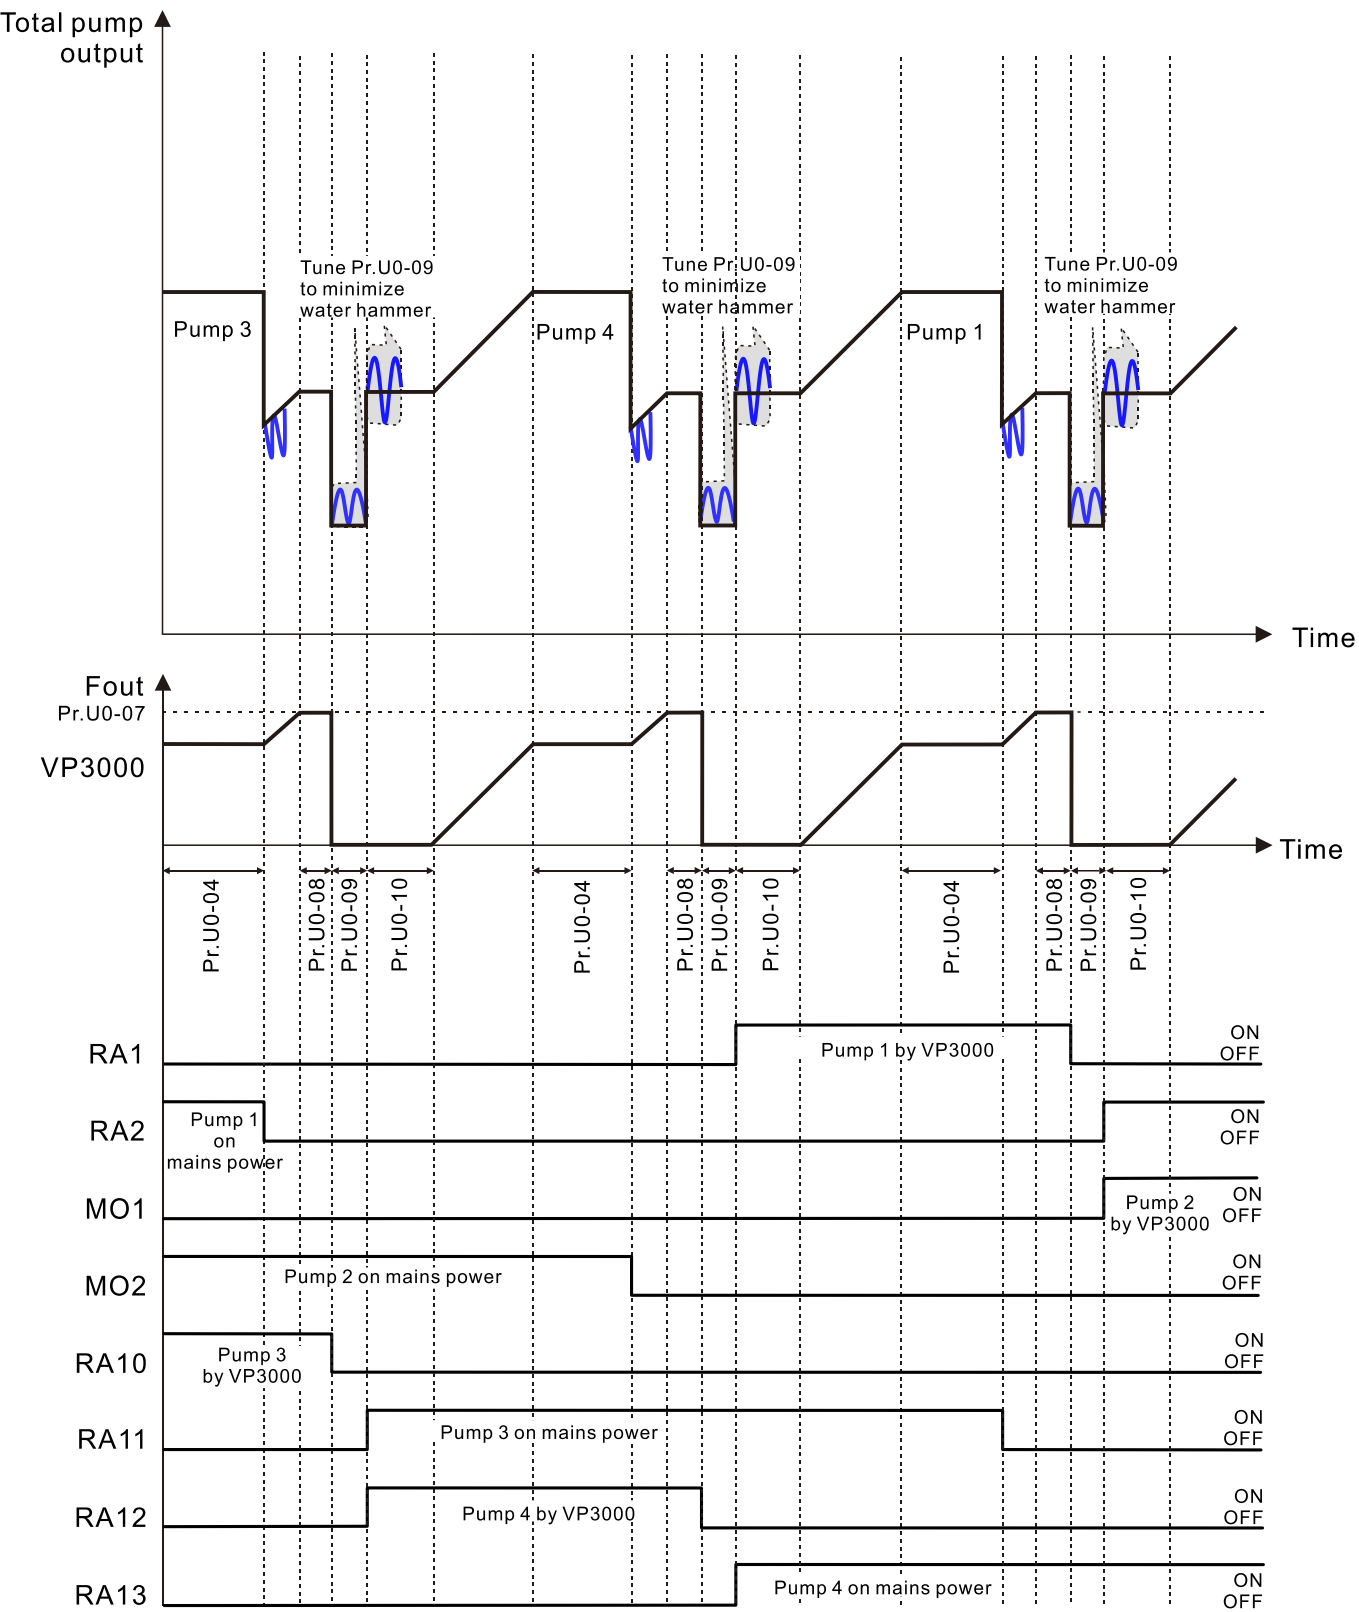

Figure 16 Situation 3 Sequence
- 📖 When the system water demand needs three pumps to balance the pressure, and the AC motor drive runs one set of master pumps and the mains power supplies to two auxiliary pumps, turn off the first auxiliary pump (Pump 1) first according to Pr.U0-04 (Circulation Time) to reduce the master pump pressure and increase the speed. The current master pump (Pump 3) then cuts off from the mains power to become an auxiliary pump, and the next pump (Pump 4) will be started as the master pump (refer to Figure 16), and so on.